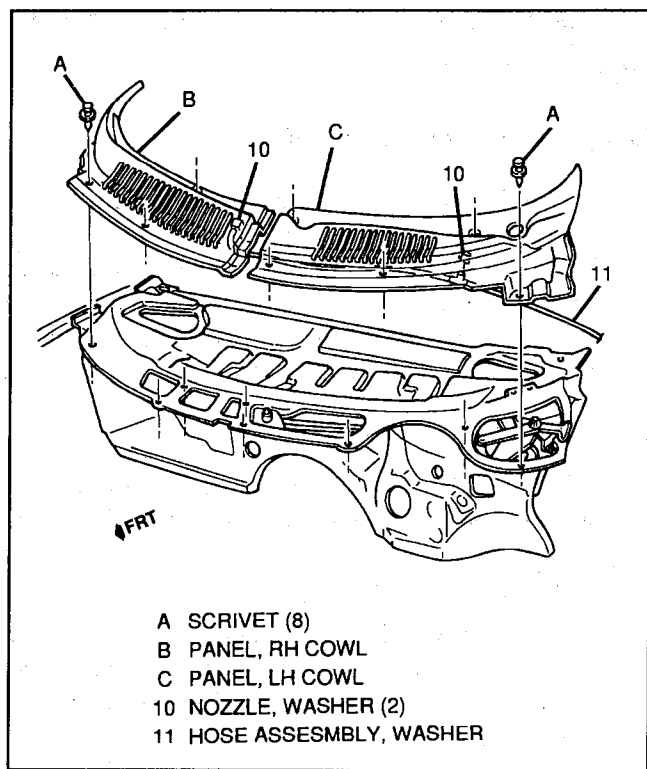

Figure 16 — Cowl Panels and Washer Components
If a washer nozzle (10, Figure 16) becomes plugged, apply air pressure. If a nozzle remains plugged, the nozzle must be replaced.
Figures 16 through 19
4. Washer hose assembly (11, Figure 16) from LH cowl panel.
- Screw (14) and nut (20) to 10 N·m (7.5 lb. ft.).
8. Washer hose assembly (11, Figure 16) to LH cowl panel and washer nozzle (10).
3. Washer hose assembly (11, Figure 16) from LH cowl panel.